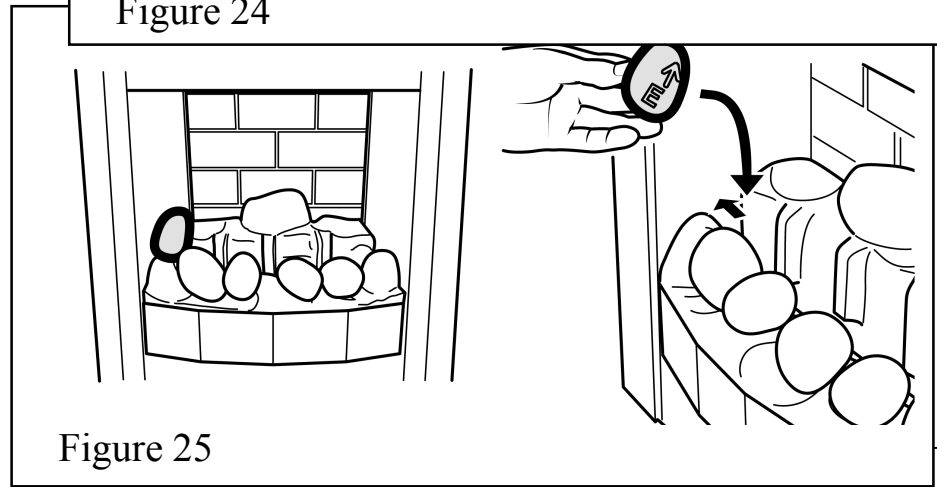

Figure 25
7. Hold pebble 'E' upright with the arrow pointing to the top. Place pebble 'E' between the front and rear base pebbles. It should rest against the side of the firebox. (See figure 25).